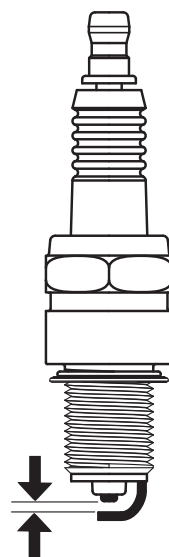

Figure 4-10: Spark Plug Gap
6. Check the spark plug gap with a feeler gauge or gap tool and bend the contact to adjust it to the proper clearance if needed. (See **Figure 4-10: Spark Plug Gap**.)